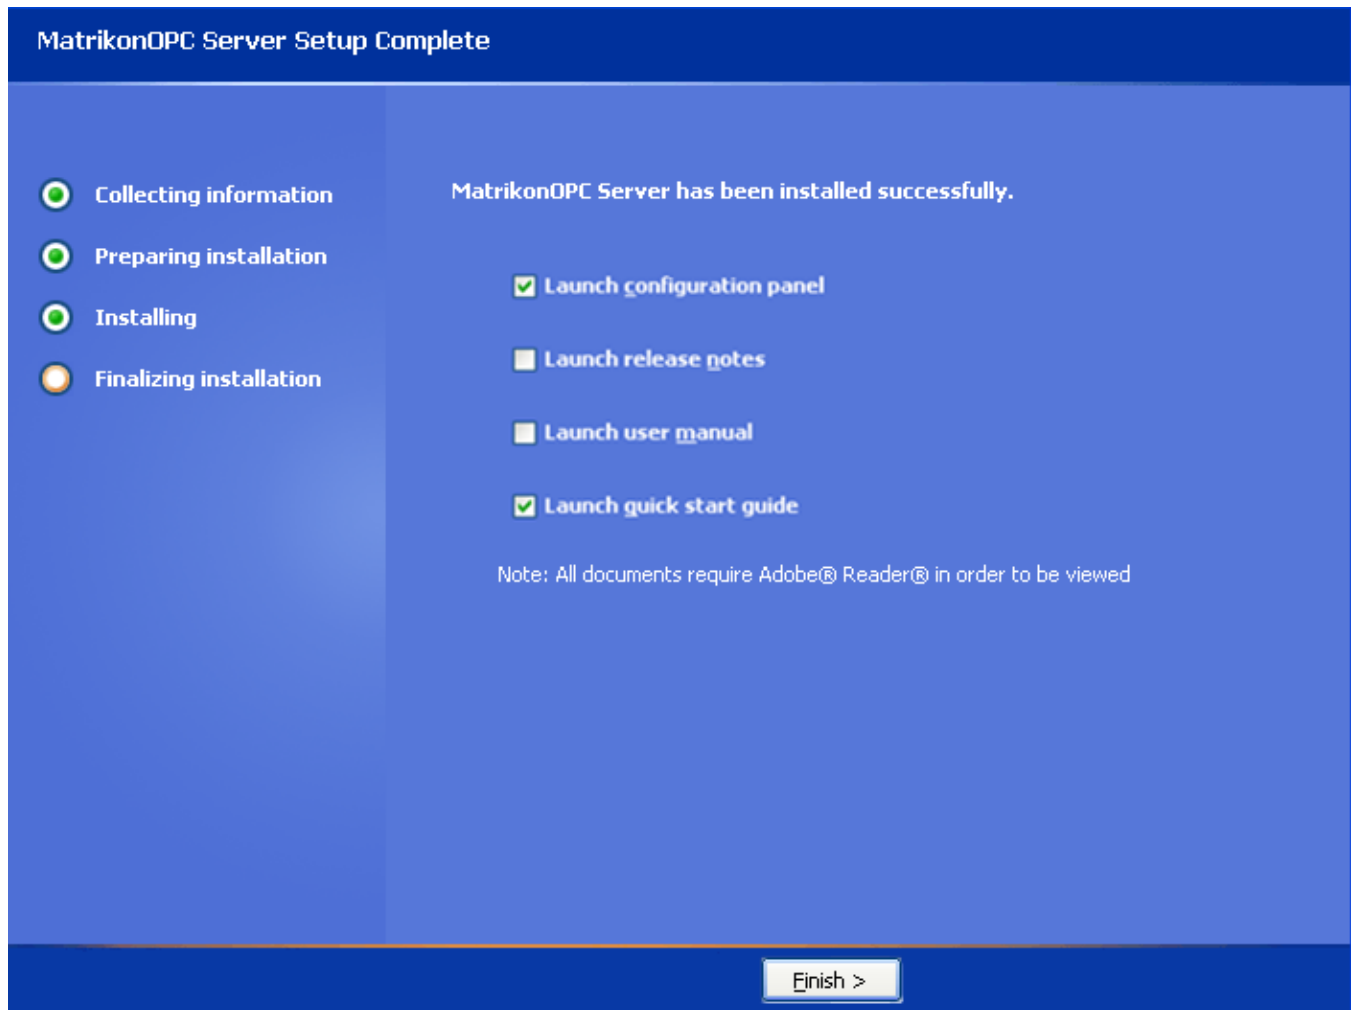

Figure 72 - MatrikonOPC Server Setup Complete Screen
20. When the installation has finished, the **MatrikonOPC Server for Vestas Setup Complete** screen (Figure 72) appears stating that the MatrikonOPC server has been successfully installed.